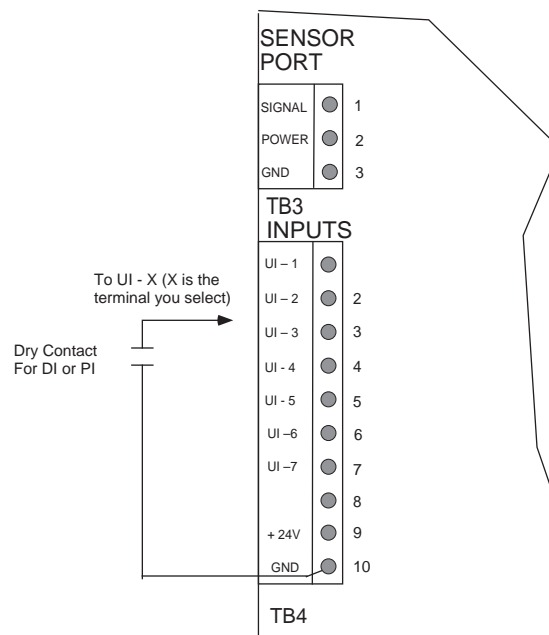

Figure 9. Dry Contact Connection
1. Connect one lead from the contact to the appropriate signal (UI-x) terminal on the terminal board (see Figure 9).